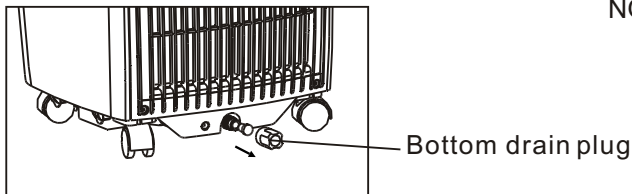

Fig.10
- When the water level of the bottom tray reaches a predetermined level, the unit beeps 8 times, the digital display area shows "P1". At this time the air conditioning/dehumidification process will immediately stop. However, the fan motor will continue to operate(this is normal). Carefully move the unit to a drain location, remove the bottom drain plug and let the water drain away (Fig.10). Re-install the bottom drain plug and Restart the machine until the "P1" symbol disappears. If the error repeats, call for service.